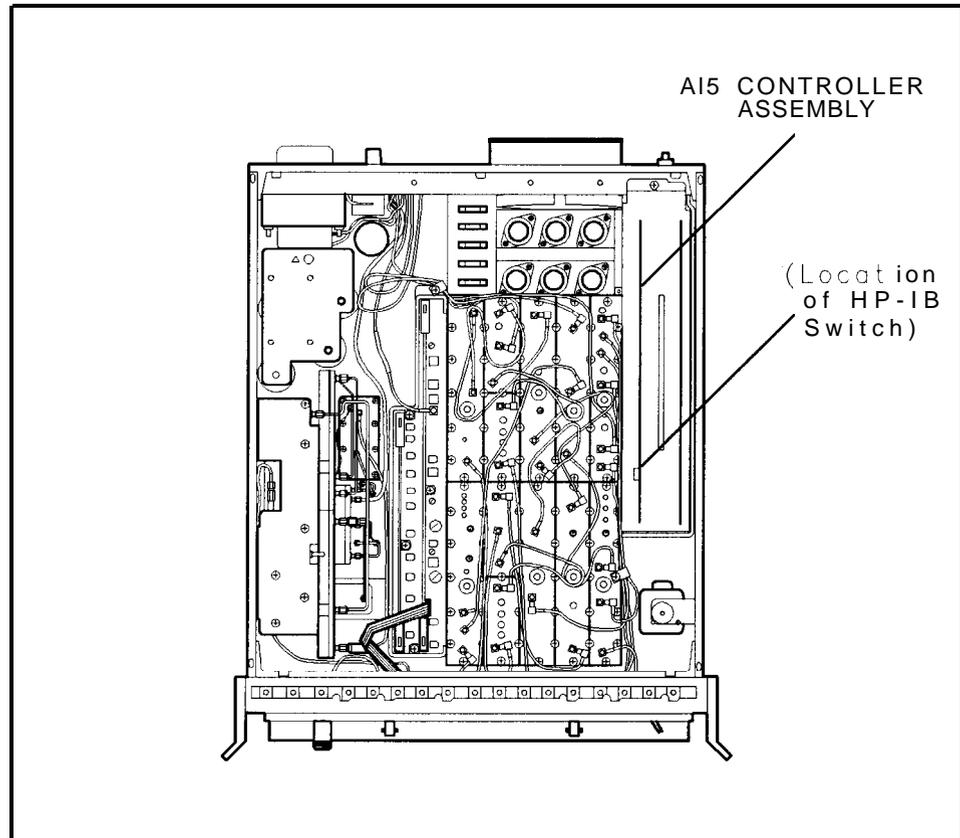
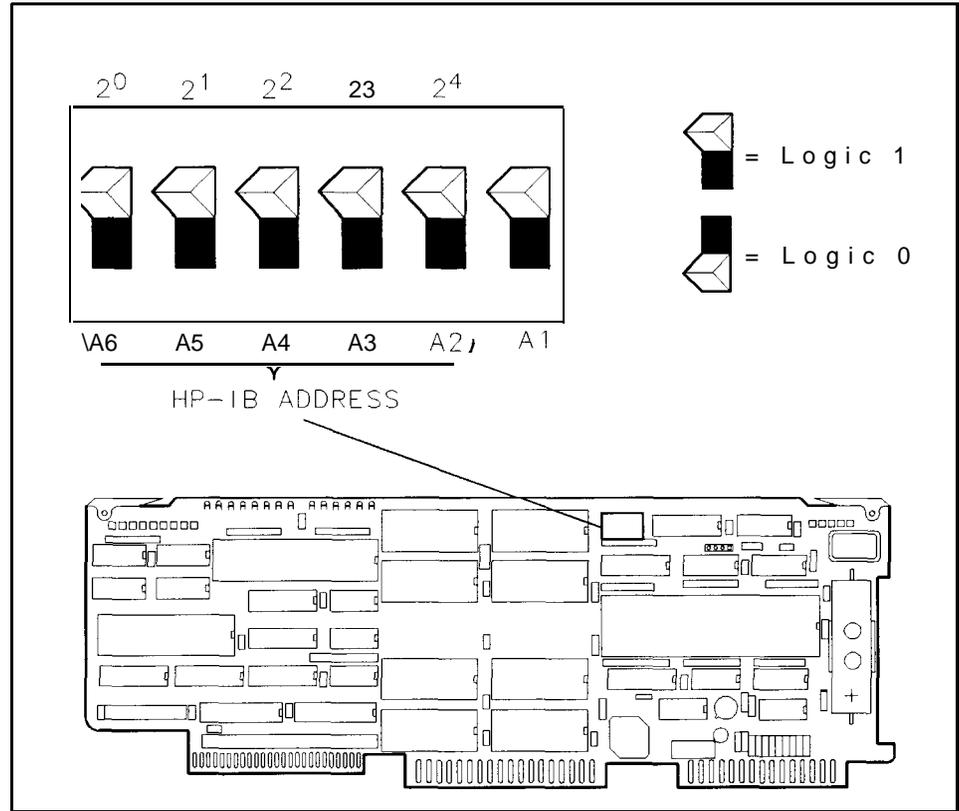

Figure 2-16. Location of A15 Controller Assembly
Figure 2-17. Address Switch (Shown in Factory Preset Position)
4. Remove the cover from the AI5 controller assembly. See Figure 2-16 to locate the assembly.
5. Locate the address switch A15SW1 as shown in Figure 2-16 and Figure 2-17. Change the switch's setting according to the information given below.
The switch comprises six segments, A1 through A6. A1 must always be set to logic 1. Each of the remaining five segments, A2 through A6, corresponds to one of the digits of a 5-digit binary equivalent of the address. See Figure 2-17. The switch is preset at the factory to binary 11111 (decimal 31). This is a special code which commands the instrument to use the last input address (stored in memory) either from the front panel or from HP-IB.